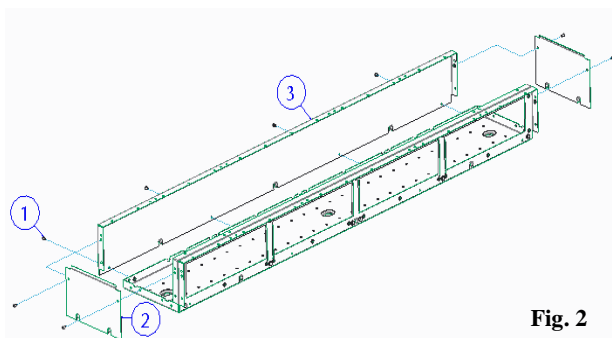

Fig. 2
- Once the Cableway is attached to the main panel board start to assemble the side plates by referring to Fig. 2 & Fig. 6.